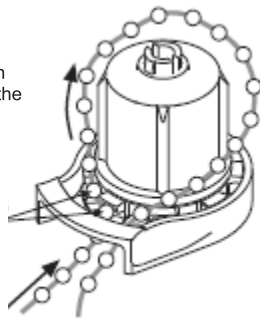

Figure 6. Insert Bead Chain
Step 4. Insert bead chain into the clutch as shown in **Figure 6**.